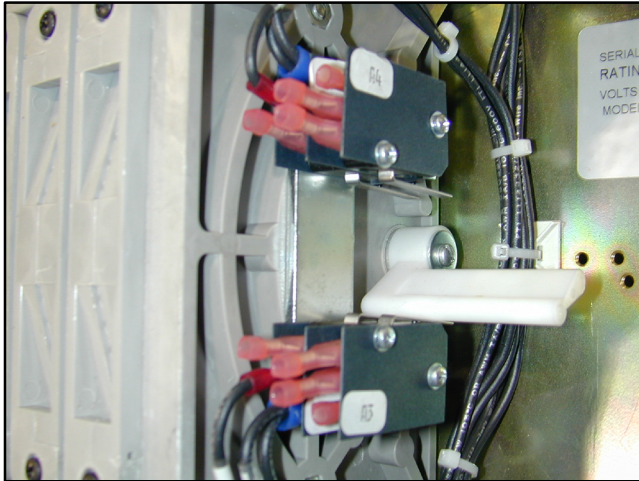

Figure 7-1 Microswitches
5. Note the location of the fast-on connectors to the microswitch terminals. See Figure 7-1.
12. Connect the fast-on connections to the microswitch terminals. See Figure 7-1.